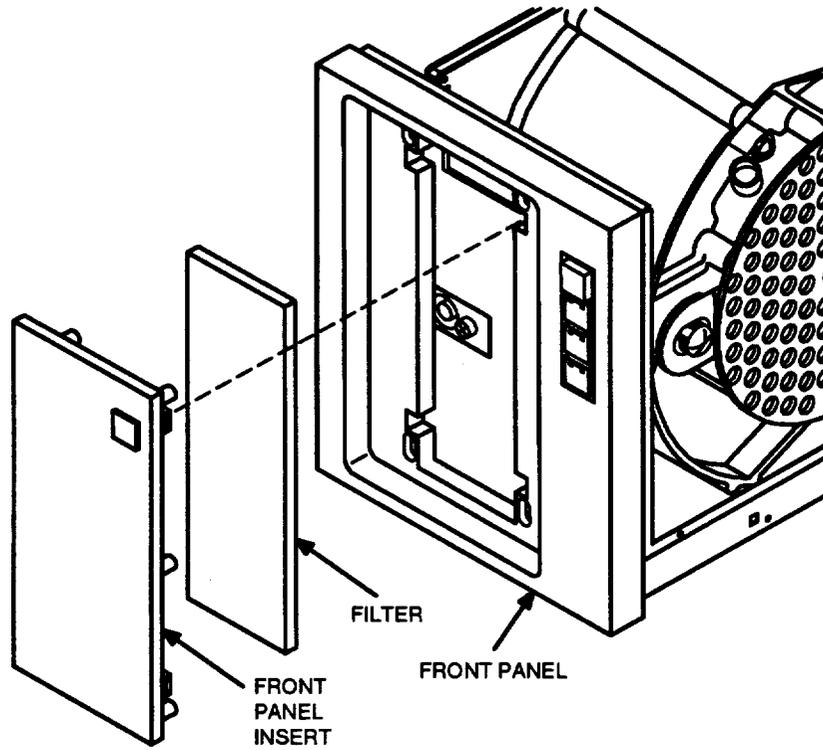

Figure 11. Air Filter Replacement
- 4.01** The air filter must be clean to ensure proper air circulation throughout the drive. The filter is located behind the front panel insert (Figure 11). The filter should be inspected by an operator periodically and either replaced or cleaned when dirty. Cleaning the filter is recommended only if replacement filters are not available. The interval for filter maintenance depends on the operating environment. In computer room conditions, a 6-month interval is suggested. In other conditions, the interval should be varied accordingly.